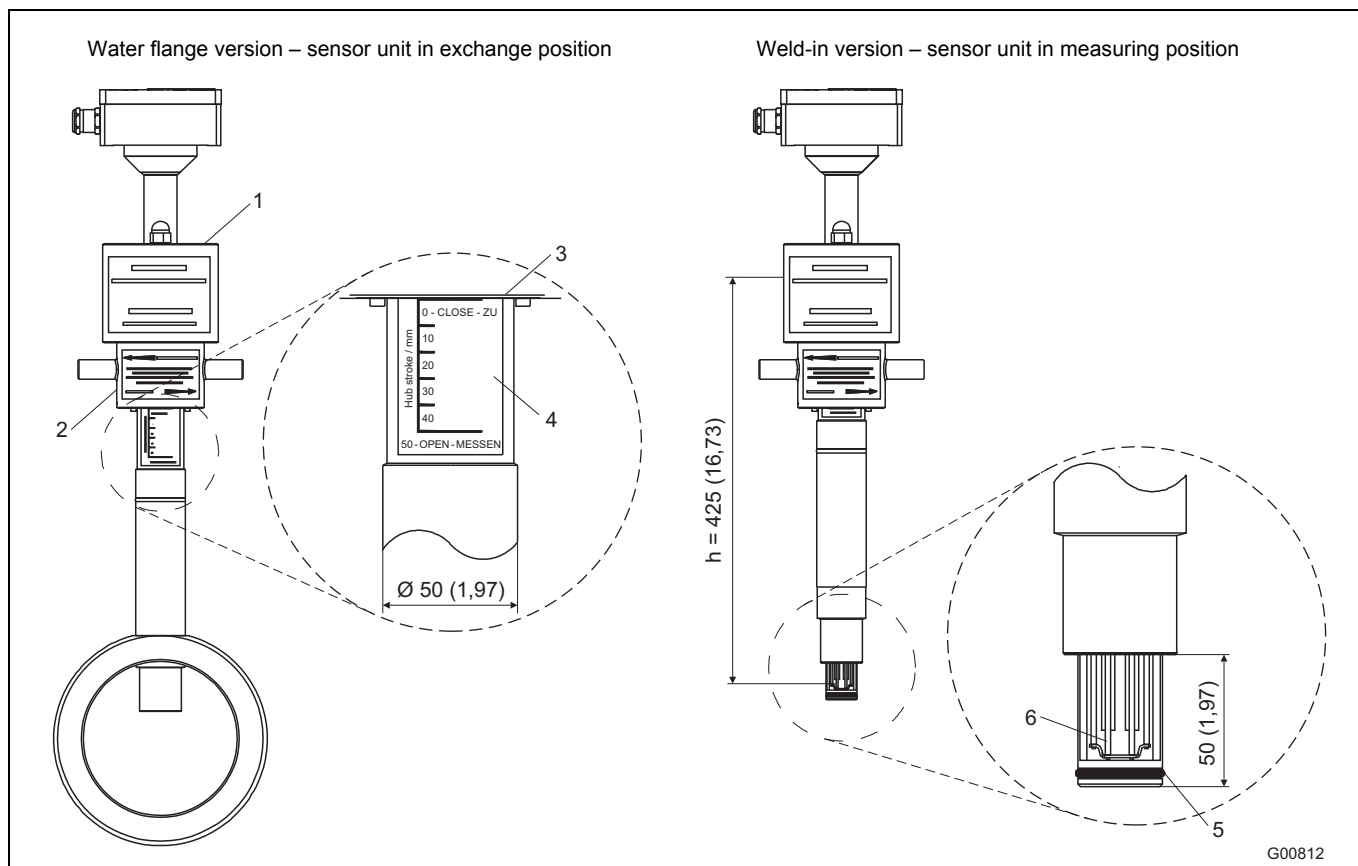
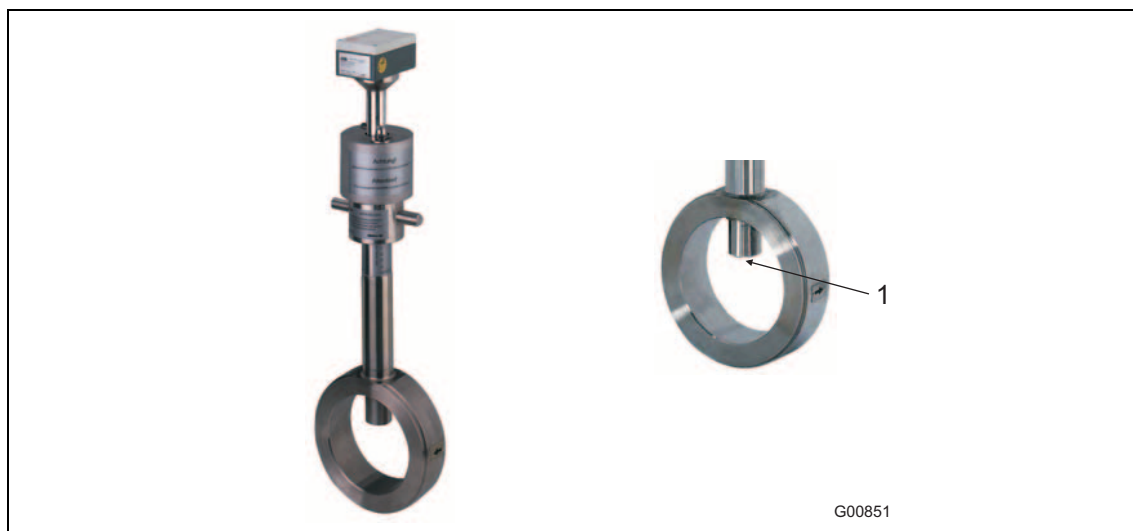
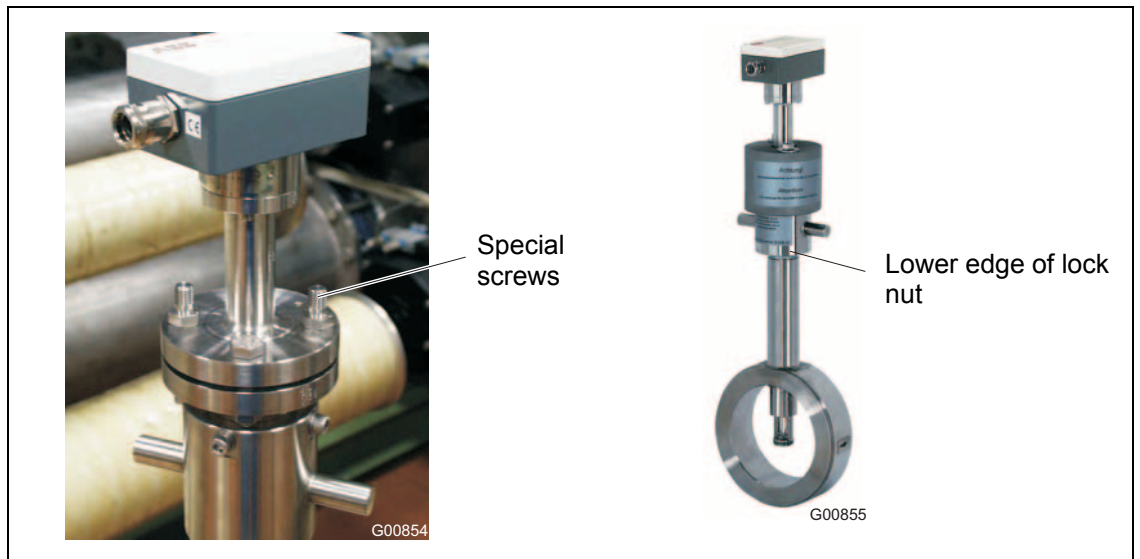

Fig. 6: Dimensions in mm (inch)
Fig. 8: Hot tap fitting in disassembly position
Fig. 11: Special screws for dust caps
The hot tap fitting is designed for pressure loads of max. 16 bar abs. To ensure interchangeability with standard pipe components (type 1), the wafer version (Fig. 8) has been developed for DN 50 and DN 80 DIN flanges with a pressure stage of PN 40. In the case of the DN 65 version with a pressure stage of PN 16, you should use connection flanges with 4 screw holes. Imperial versions 2 ... 8" designed for connection flange ASME B16.5 Cl.150 only. For suitable flowmeter sensor lengths, see Fig. 6.
Fig. 8 (left) shows the installed wafer version of the hot tap fitting in the disassembly position. The guide tube is in its upper end position and seals the Sensyflow opening (right).
- The hot tap fitting must be in the disassembly position (Fig. 8), whereby the Sensyflow opening is sealed.
- Insert the transmitter in the hot tap fitting and secure with screws (two M12 screws and two extended special screws, installed opposite each other (Fig. 11)).
- Install the dust caps and use nuts to attach them to the special screws (Fig. 11).
- Rotate the transmitter into the measuring position using the lock nut (Fig. 11). The lower edge of the lock nut indicates the position of the measuring element. When you reach the measuring position 50 – OPEN – MESSEN (lower limit stop of lock nut), the measuring elements are in the middle of the pipeline and it is only at this point that accurate values can be provided (see detail A in Fig. 6).
- Using the lock nut, rotate the hot tap fitting into the disassembly position. (Upper limit stop of lock nut, with lettering 0 - CLOSE - ZU must be visible; see detail A in Fig. 6).